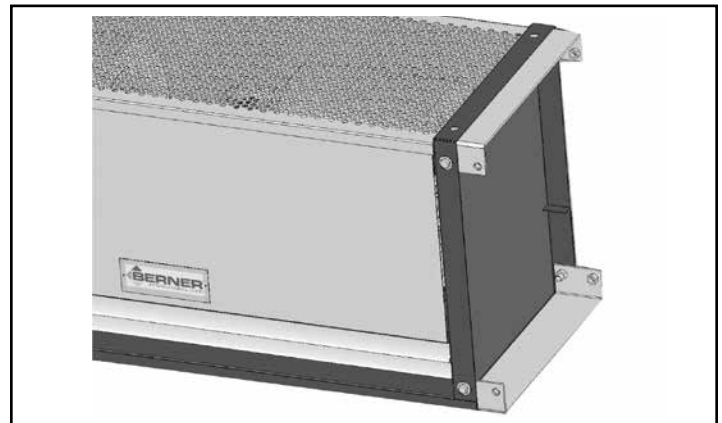

FIGURE 8 - Tandem Mounting for Vertical Mounting
- C. Using (4) 1/2 - 13 x 1" bolts, attach the Tandem Mounting Brackets to the inside of one of the unit's end plates as shown in **Figure 8.**